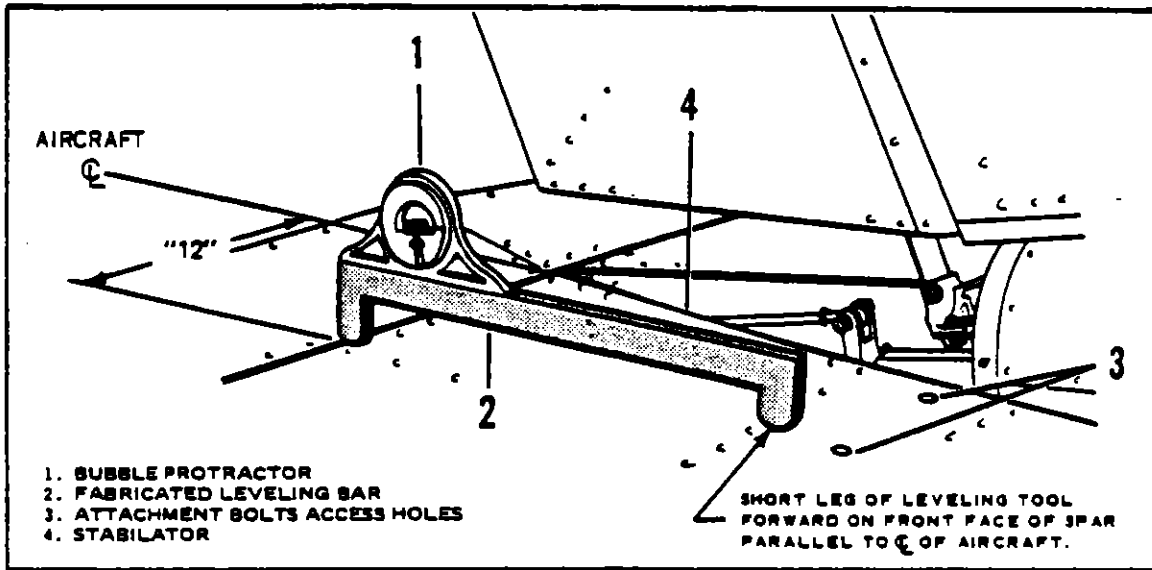

FIGURE 5-11. CHECKING STABILATOR TRAVEL
b. With the aircraft level, determine the level position of the stabilator by use of a bubble protractor on a special leveling tool placed on the stabilator per dimensions in Figure 5-11. The leveling tool may be fabricated per dimensions given in Figure 5-13. Set the stabilator travel by adjusting the stop bolts at the torque tube horn (refer to Figure 5-12) and measuring the degree of travel with the bubble protractor on the leveling tool. Travel dimensions from level are given in Table V-1.